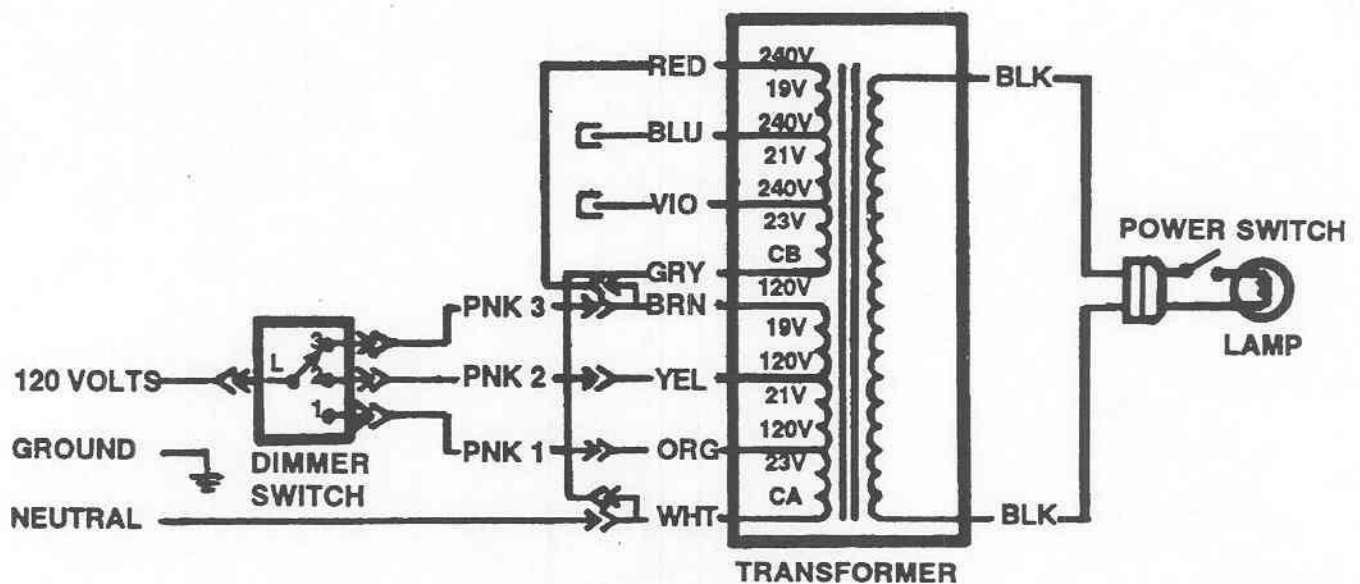

Figure 3-2. Electrical connections - 120 volts.
- (11) Lift off the end cap and set it aside.
- (12) Determine the voltage set up by comparing the wiring connections as illustrated in figures 3-2 and 3-3.
Refer to figure 3-2.